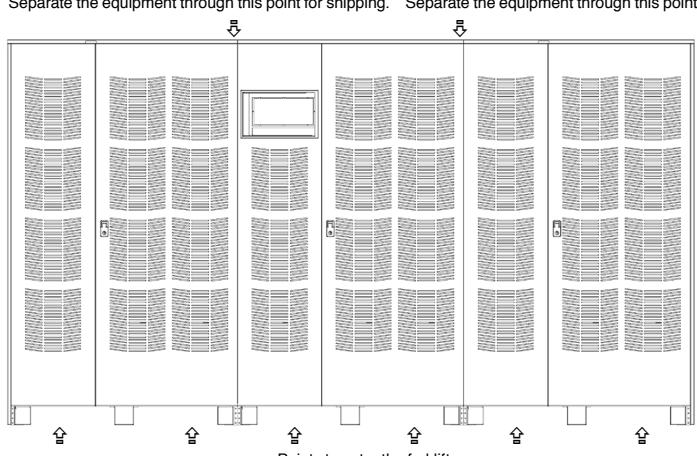

Fig. 11. *Forklift point entering.*
- To manipulate the cabinet with the forklift, it is necessary to remove the front covers of the base (see figure 11).